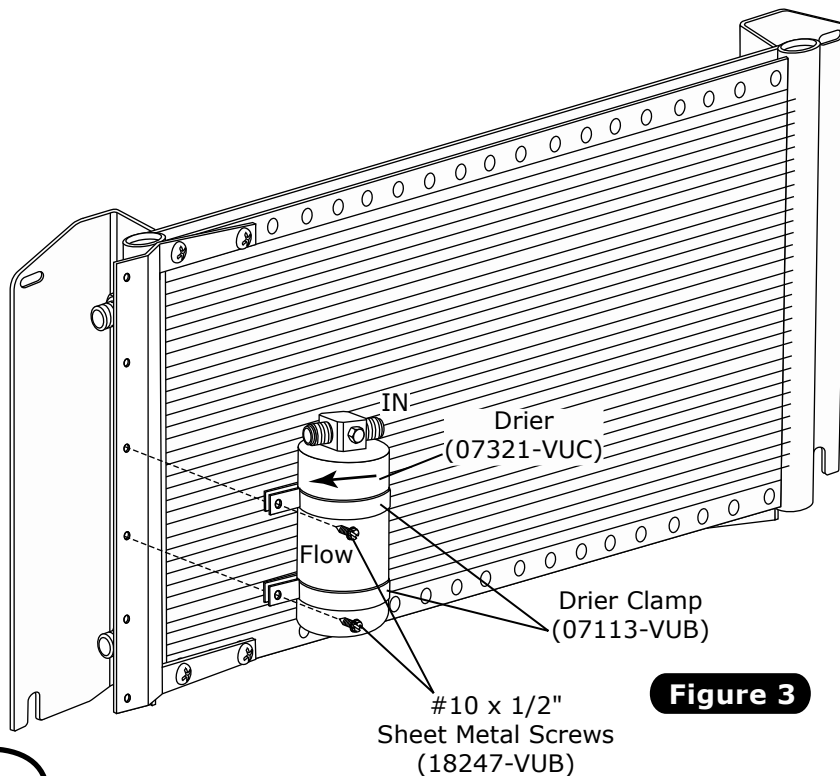

Figure 3
1. Place drier clamps around drier as shown in Figure 3, below. Secure drier to drier bracket using (2) #10 x 1/2" sheet metal screws.